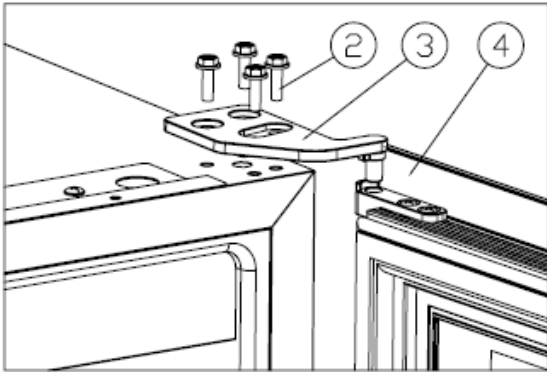

Figure 1
- ✧ Unscrew the M5\*16 screws ②, dismantle the right upper hinge ③, and remove the door. [Figure 1].